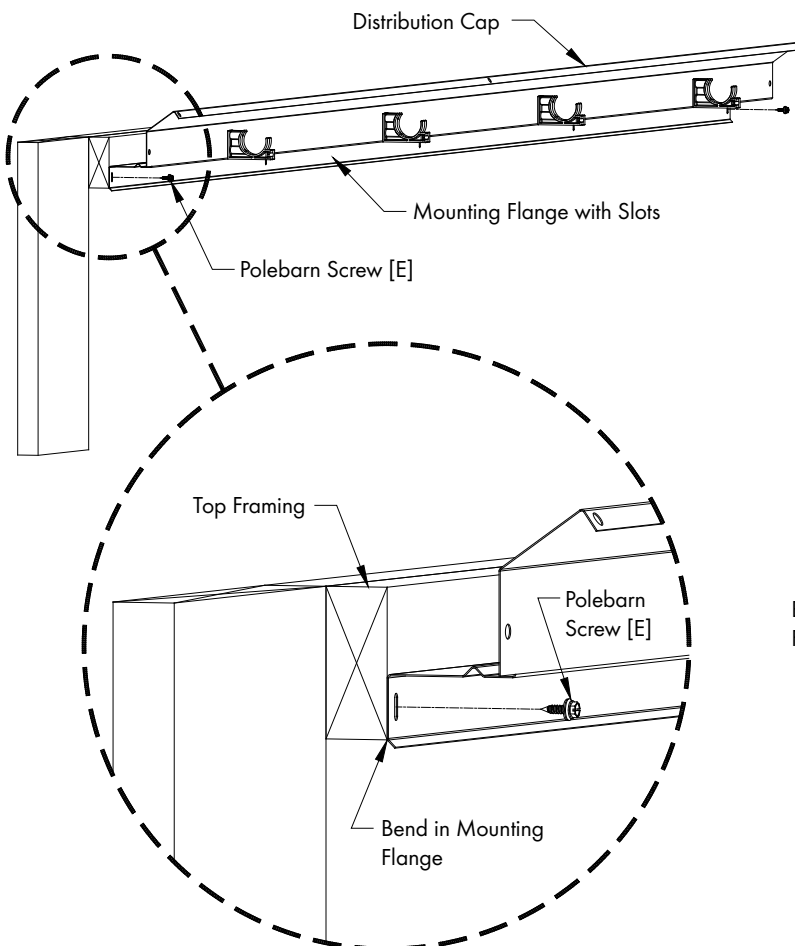

Figure 8A
The side of the Distribution Cap with the slots is the mounting flange. Starting at the Tank End, hold the Distribution Cap mounting flange up to the Top Framing so that the end is flush with end of Top Framing and the bend in the mounting flange is aligned with bottom edge of Top Framing and loosely secure in place using (1) Polebarn Screw [E] in the end slots. See Figure 8A and 8B.